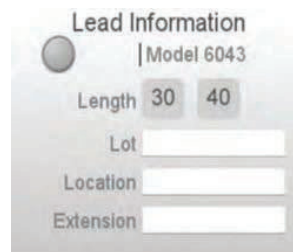

Figure 13. Lead Information popup
- b. Tap  (Lead Information). The Lead Information popup displays (Figure 13).